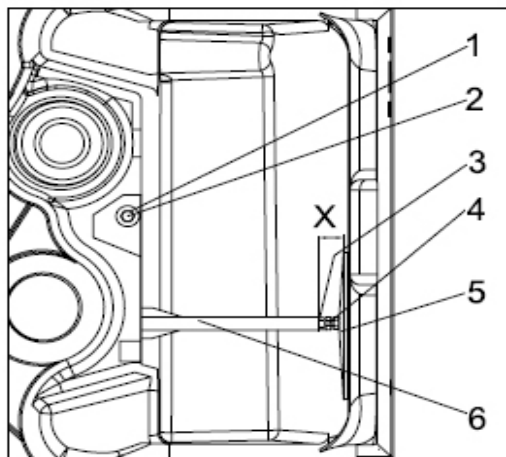

Figure 24 - Tank Stabilizer
Refer to Figure 24 for items in the procedure:
2. Mount complete stabilizer (6) in the tank and fasten hand tight by items 1&2 of (Figure 24)
3. Fasten plate (5) hand-tight at tank wall and determine X
4. Adjust tension of plate (5) to  $X + (4\text{mm}) \frac{1}{8}"$
5. Tighten Hex Bolt (2)
6. Fasten (counter-lock) plate (5) by means of jam nut (4)